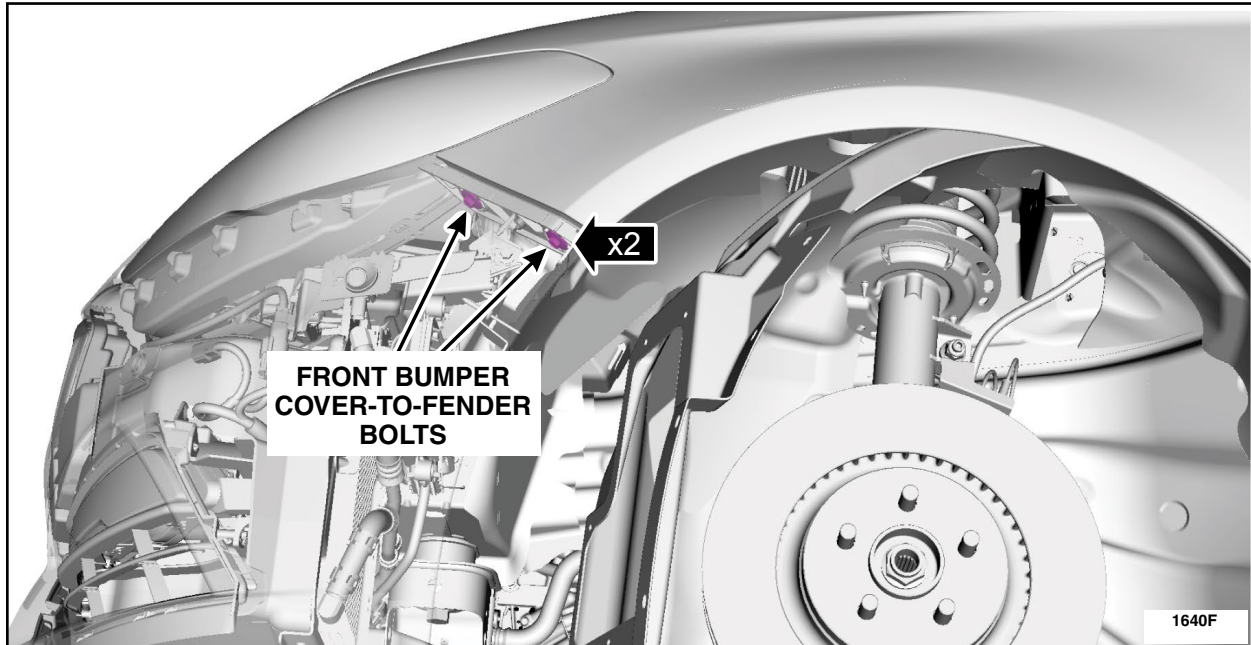

FIGURE 4
5. Remove the two front bumper cover-to-fender bolts on both sides of the vehicle. See Figure 4.